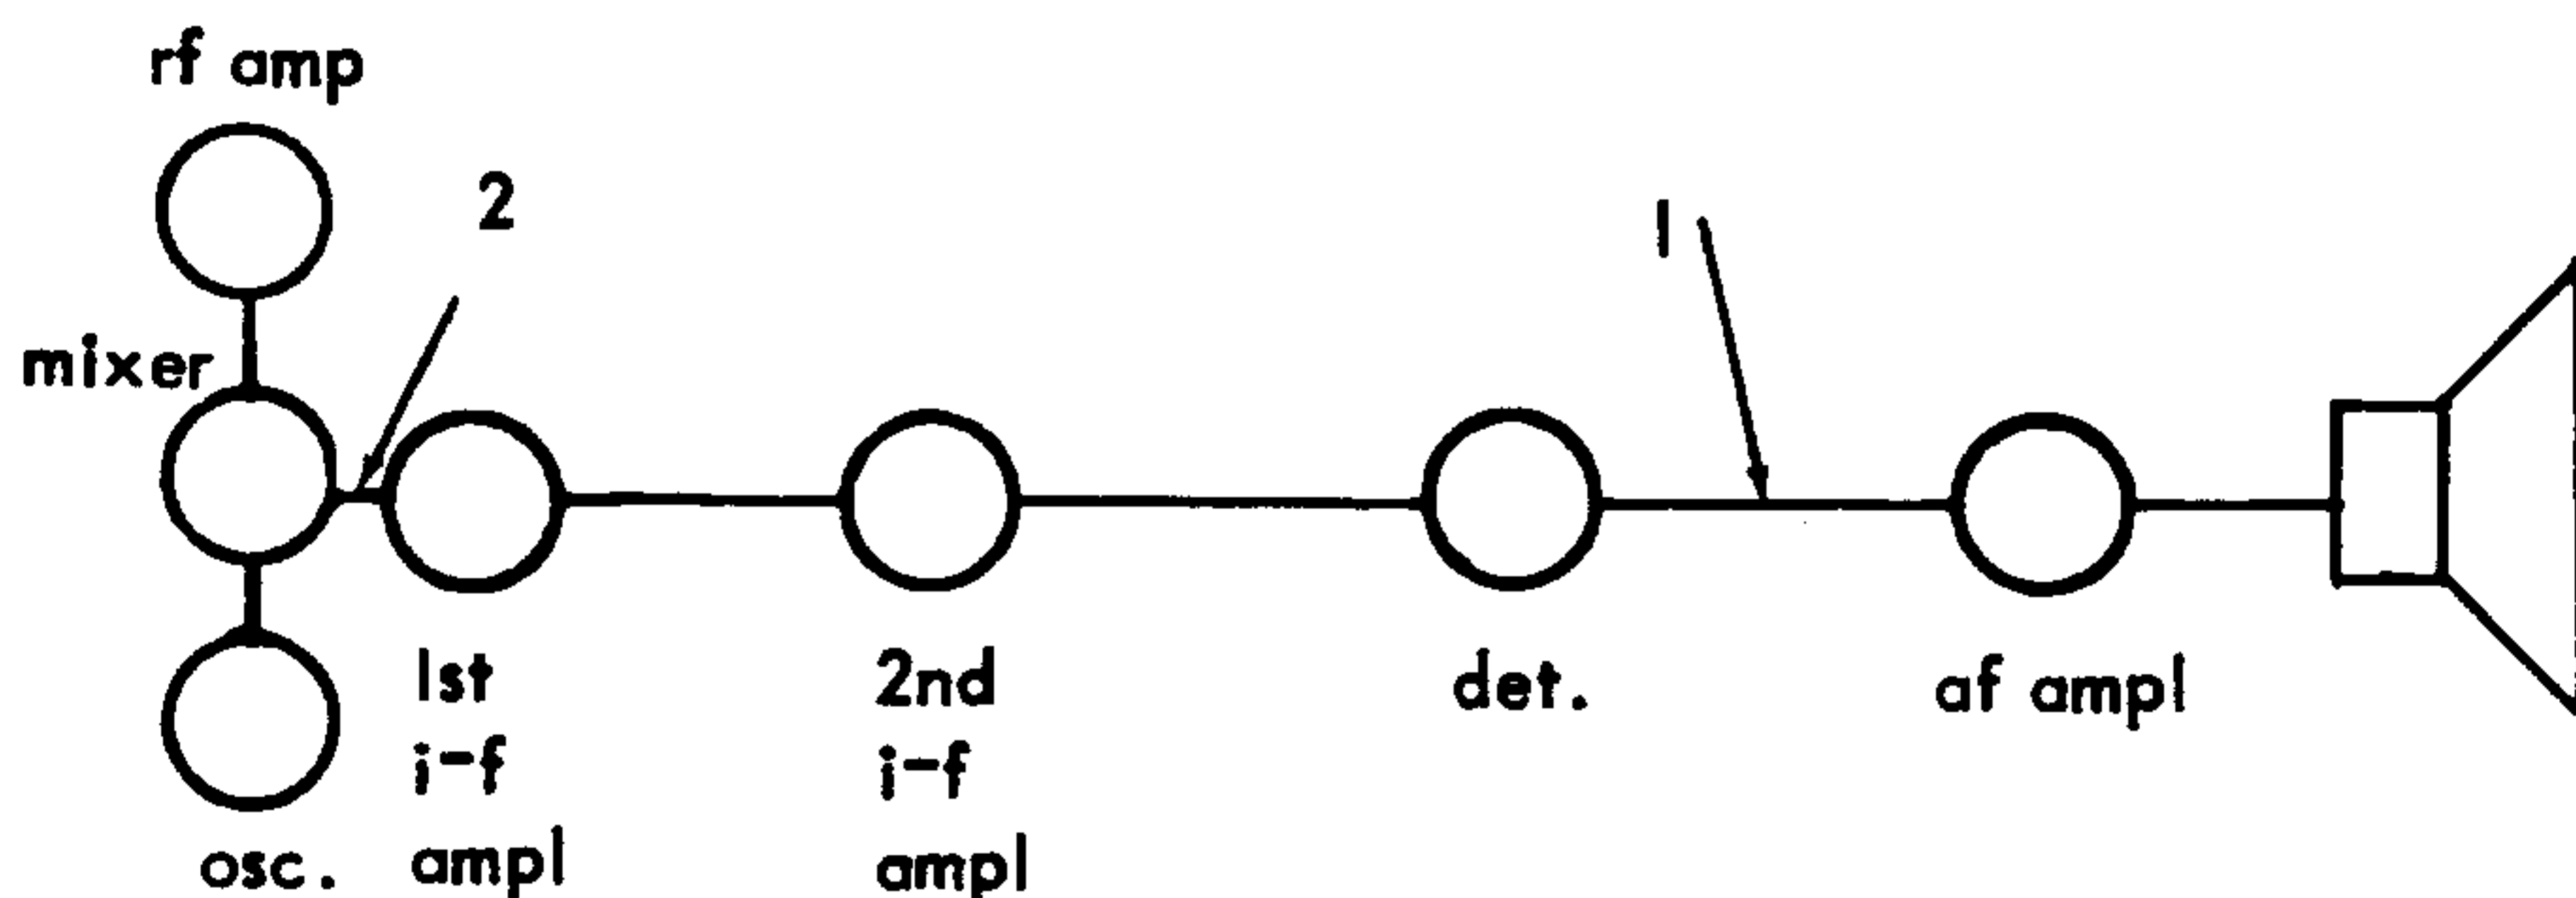

FIG. 4. BLOCK DIAGRAM OF A-M RECEIVER
**Locating a dead section in an a-m receiver:** (Unless stated otherwise, the indication of normal functioning in all cases is a loud 400 cps tone.) Check the audio section by applying 0.1 volt audio signal from the 324 to the input of the audio amplifier (point 1 Fig. 4) with the volume control of the receiver set for full volume. Check the i-f section by tuning the 324 to the i-f frequency (usually 455 kc) and applying a very low modulated i-f signal to the input of the i-f amplifier (point 2, Fig. 4). If both audio and i-f sections are functioning, it may be assumed that the trouble is in the r-f section.
Fig. 4. is the basic Foster-Seeley ("phase") discriminator and preceding limiter stage. With the 324 set up and connected as per instructions for the last step of the i-f alignment shift the vtvm to measure the d-c voltage across either